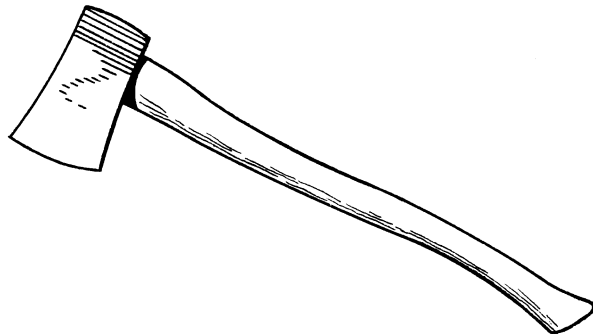

Figure 9.—A single-bit "boy's ax."
3. "Boy's ax," single-bit, 2¼- to 2½-pound head, curved handle 26 to 28 inches long (fig. 9). Introduced by French-Canadian pulpwood cutters, this little ax has become popular with a great many of our native woodsmen, especially for cutting small softwood. It has the advantages of the bigger single-